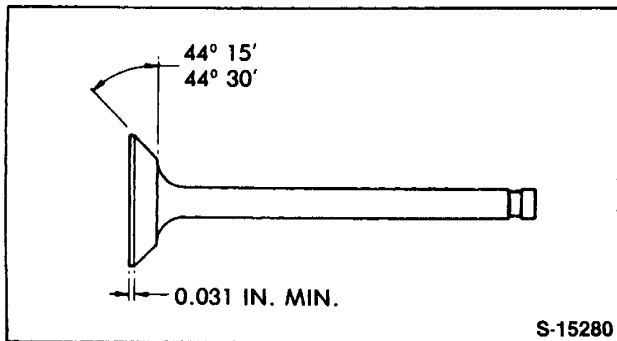

**Figure 15**
- Examine the valve face and, if pitted, replace or reface by grinding to the dimension shown in Figure 15. Before refacing the valve, be sure the valve stem is not bent or worn and check the valve seat run-out, measured at right-angles to the seat, does not exceed a total of 0.0015 in. (0.04 mm).